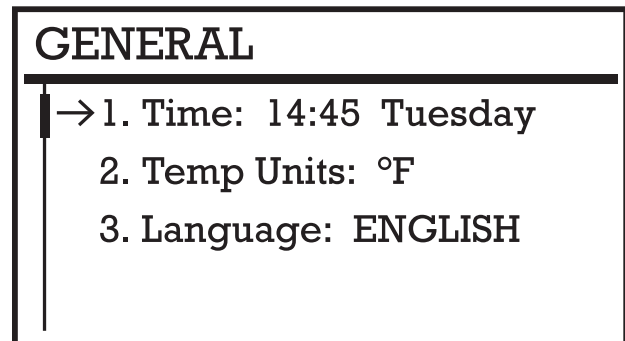

Figure 24
- Press **ENTER** again to enter the **"GENERAL"** screen. **SEE FIGURE 24.**